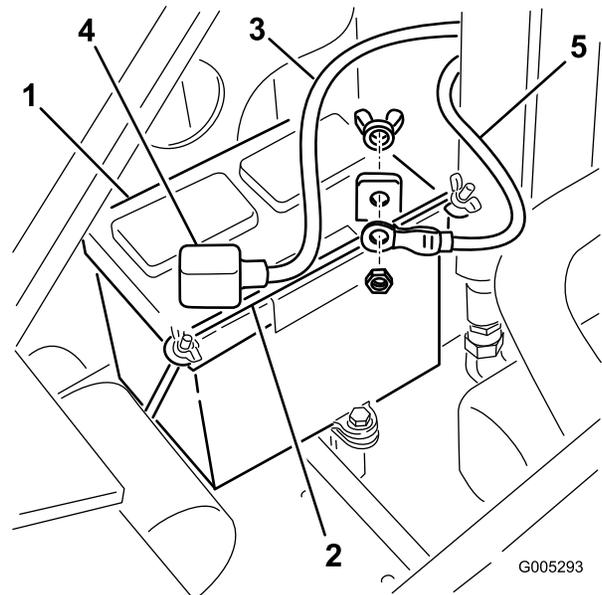

Figure 28
- Remove the wing nuts and bar securing the battery (Figure 28).
9. Install the battery into the chassis (Figure 28).
10. Secure the battery in the chassis (Figure 28).
11. Using the bolt and wing nut supplied with the battery, connect the positive (red) cable to the positive (+) battery post (Figure 28). Slide the rubber cover over the battery post.
12. Using the bolt and wing nut supplied with the battery, connect the negative (black) cable to the negative (-) battery post (Figure 28).